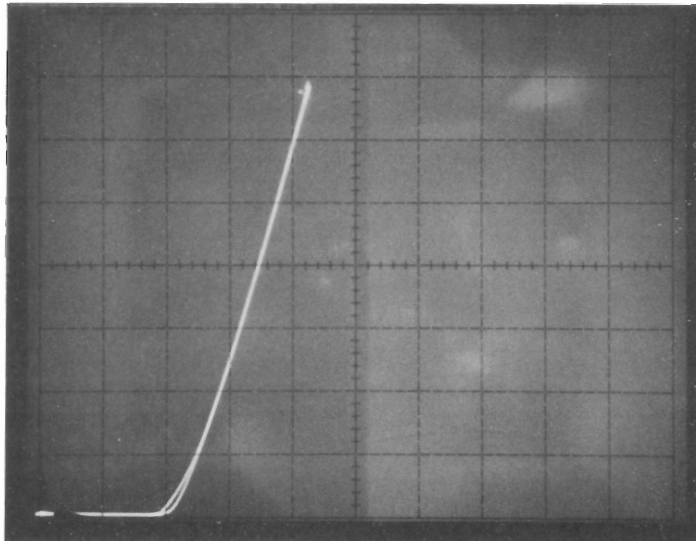

Figure 2-5 Forward voltage drop in Adapter.
2.3.1 Horizontal Deflection. The horizontal deflection in the display is of the Collector Sweep waveform applied to the adapter, and does not represent directly the voltage across the SCR under test. Voltage drop across protective and bias diodes and series resistance ( $0.25\Omega$ ) in the fixture are represented by the left-most 2.2 to 3.8V of the trace at various current levels while the fixture is operating normally. Typical horizontal displacement for various current levels of the fixture is shown in Fig 2-5.